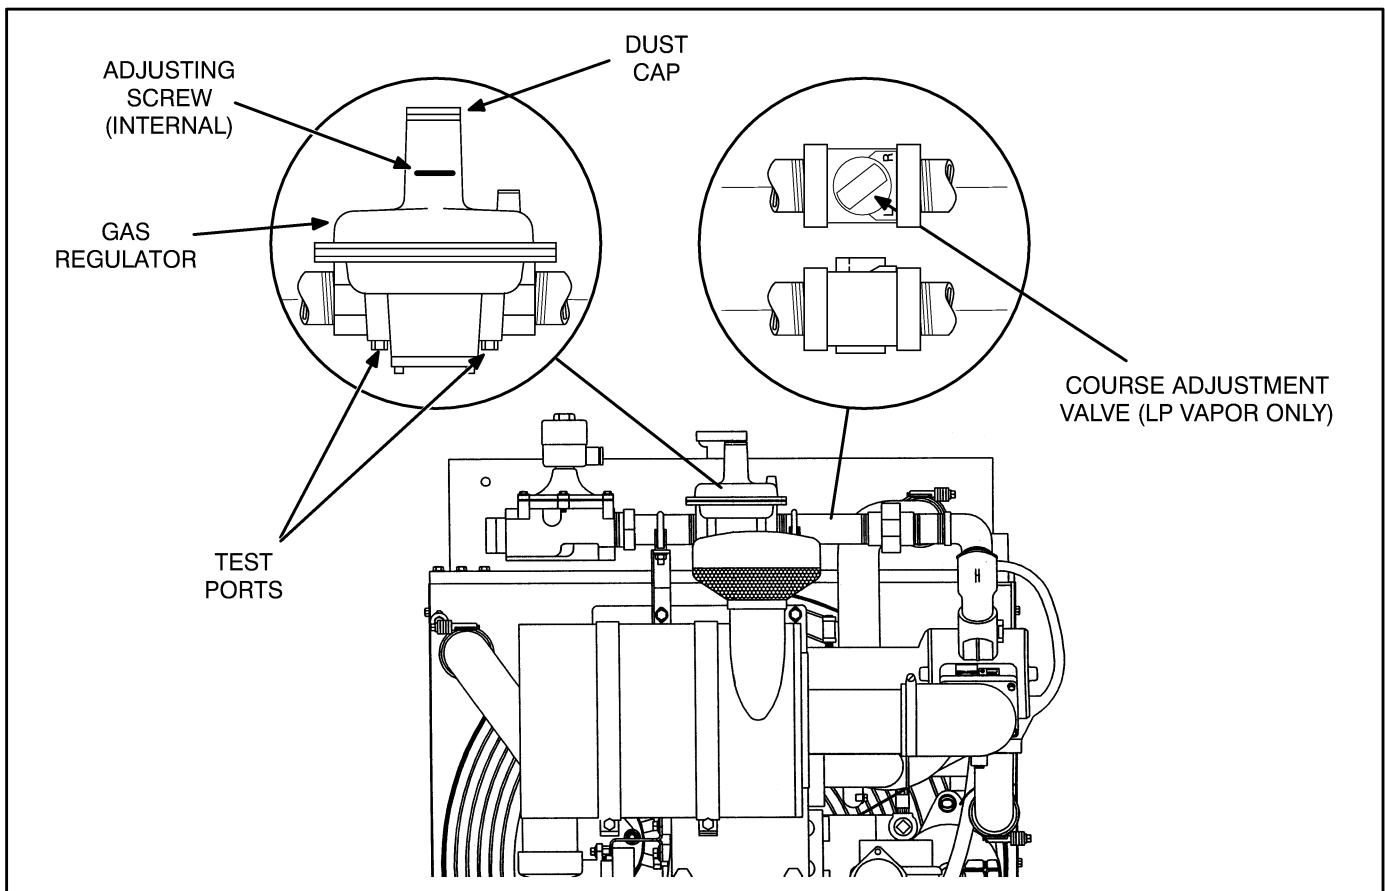

FIGURE 7-3. GAS REGULATOR
The gas pressure regulator provides constant gas pressure at the gas mixer under varying load conditions (Figure 7-3). There are pressure test ports on both sides of the regulator for measuring supply and regulated fuel pressures (NG or LPG systems).
2. Install a pyrometer in the 1/8 inch pipe tapped hole of the exhaust manifold located ahead of the turbo charger (Figure 7-3).
- B. Turn the course adjustment valve (Figure 7-3) until an approximate reading of 5% is obtained.